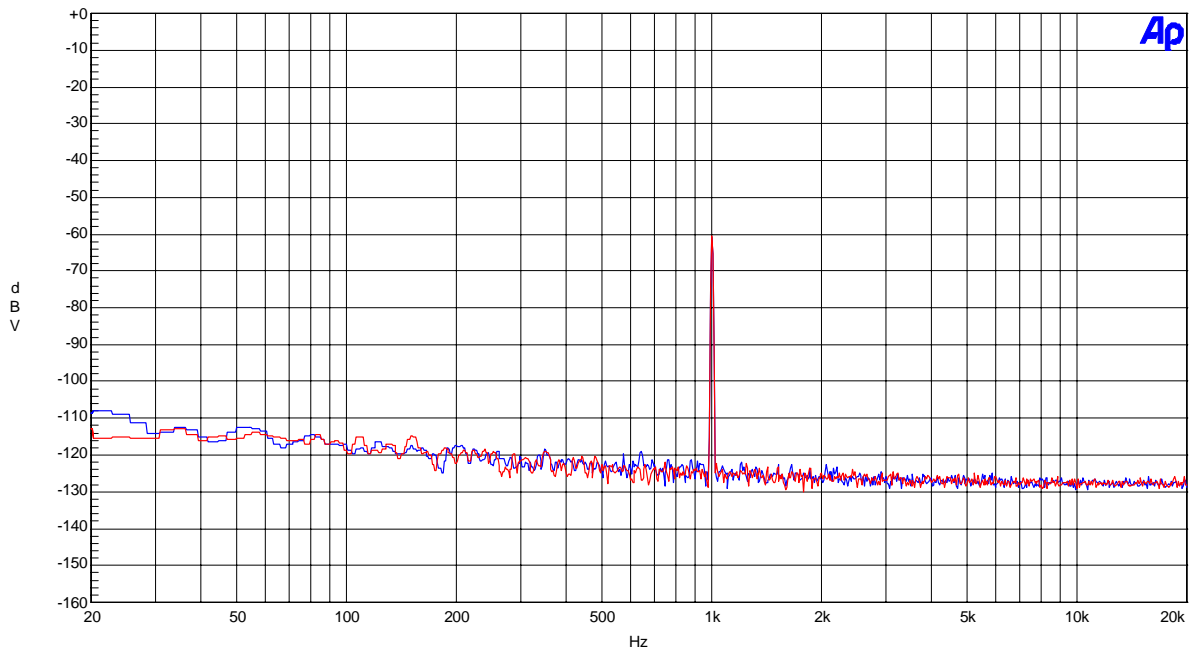

Figure1-2. FFT (fin=1kHz Input Level=-60dBV)
- Figure 1-2. FFT (1kHz, -60dBV input)